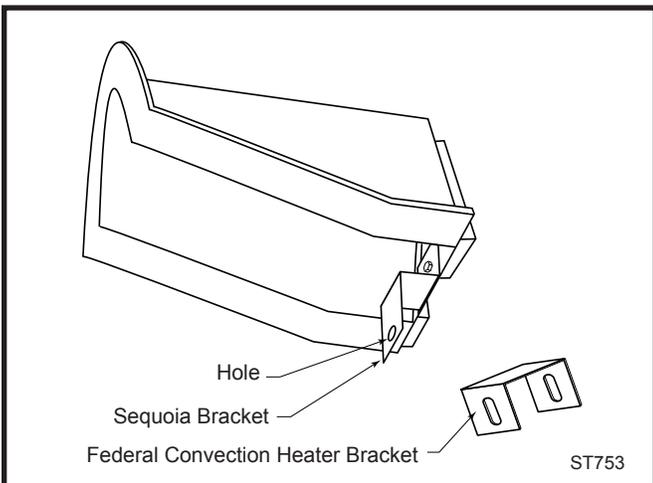

Fig. 5 The remaining hole to which the heat shield attaches must extend below the leg.
2. Place a 1/4-20 x 1" bolt through the unthreaded hole in the bracket to allow the other end of the bracket to hang below the leg. (Fig. 5)